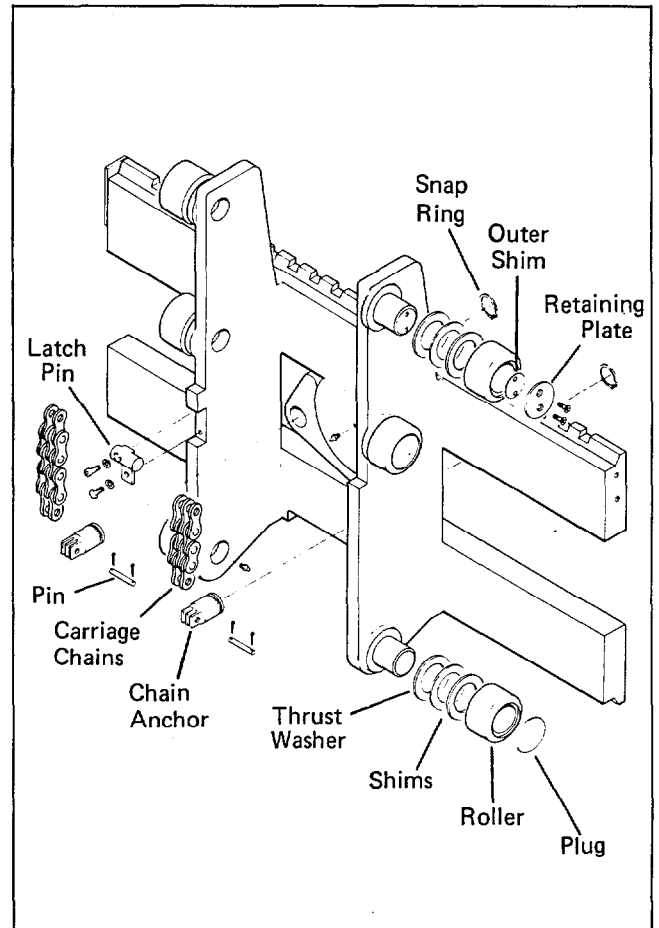

Figure 4-38 Carriage
11. Replace both chain anchors in the yoke, making sure the snap rings are securely in their grooves. See figure 4-38.